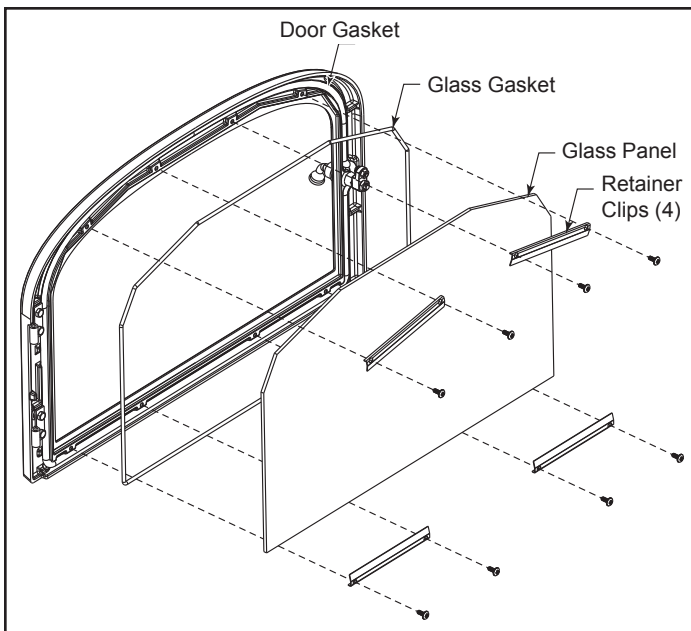

Figure 13 - Replace glass.
- Open the door and loosen the four retaining clip screws that hold the glass to the door. Swing the clips out of the way. Tilt the glass away from the door frame and lift up. (Figure 13) Wear gloves and use caution when handling broken glass.